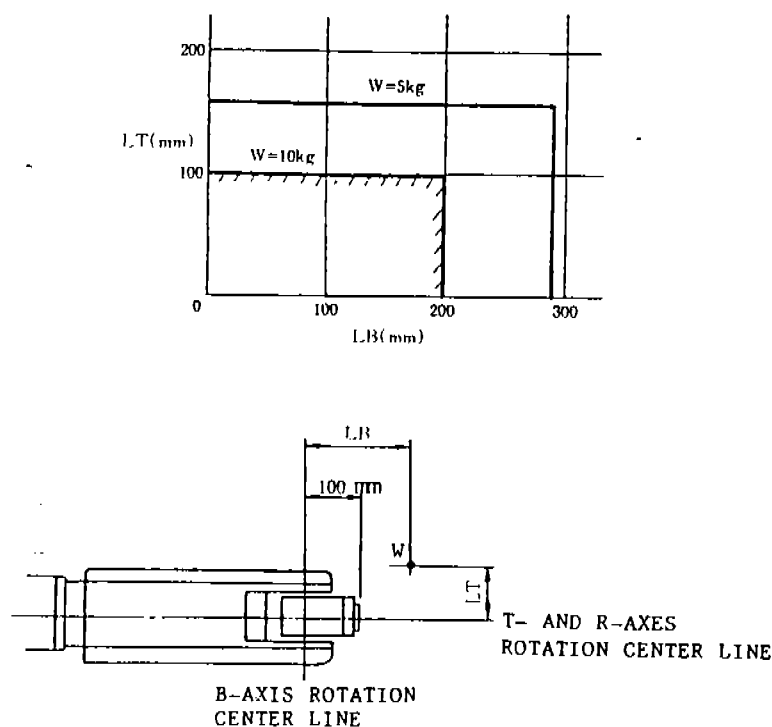

Fig. 2.1 Moment Arm Rating
- (2) If force is applied to the wrist instead of the load, force on R-, B- and T-axes should be within the values shown in Table 2.1. Contact your Yaskawa representative for further information or assistance.
- (3) Where the volume of load is small, refer to moment arm rating shown in Fig. 2.1.